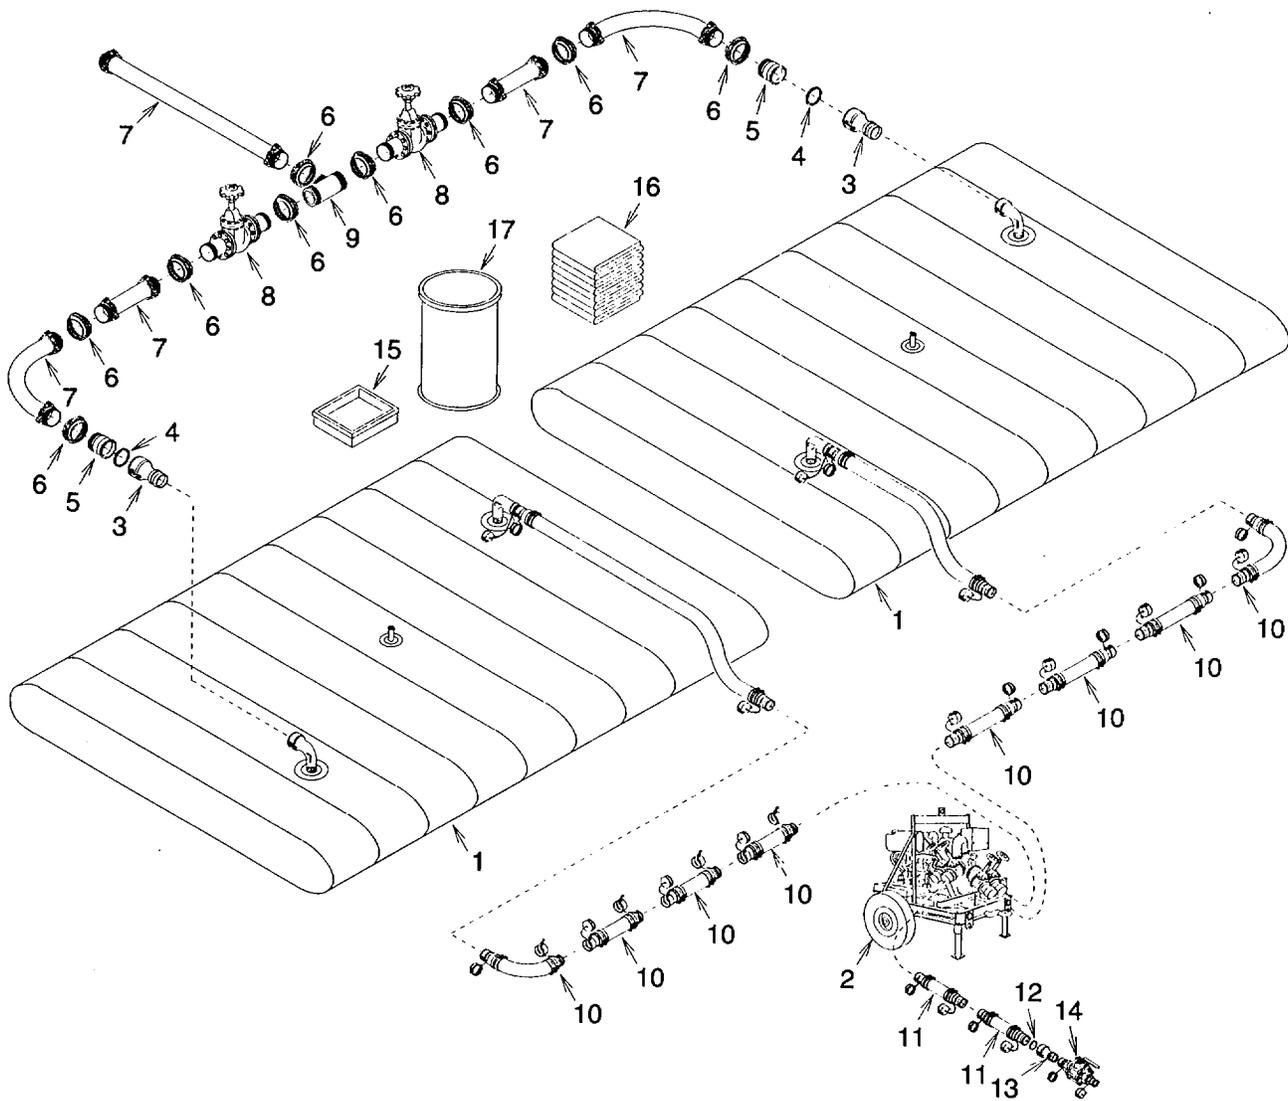

Figure 4-6. Contaminated Fuel Module
- a. Locate and install 2 each 50,000 gallon collapsible fabric tanks (1) (see figure 4-6). See para 4-4 and TM 10-5430-219-12. Be sure that elbows, hoses, and valves supplied with tanks are installed.